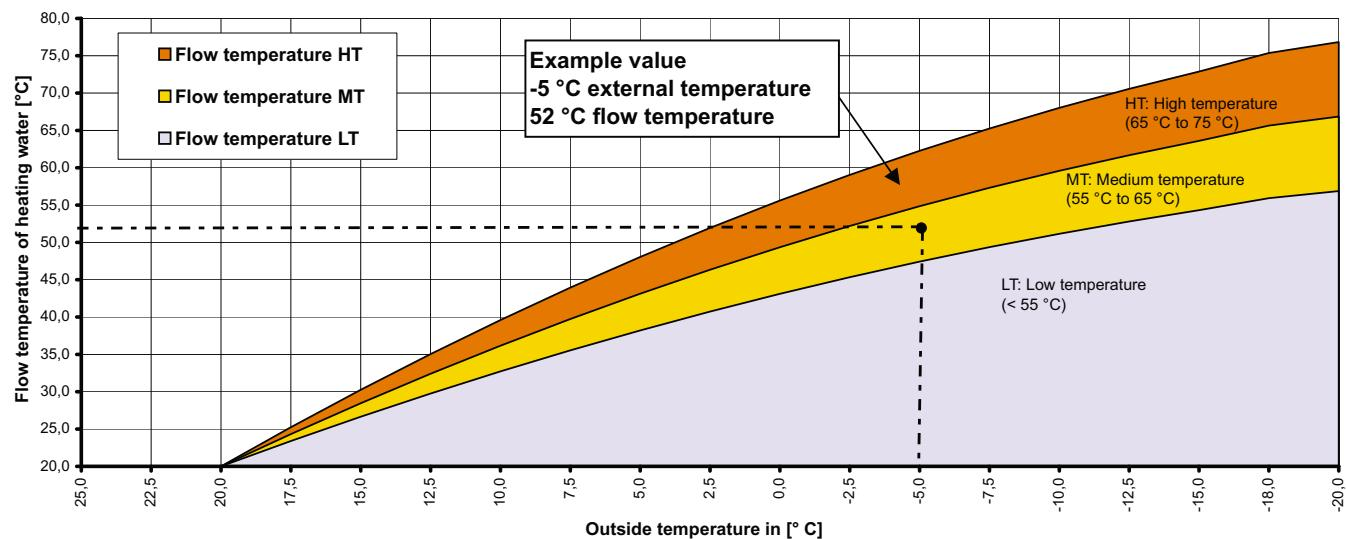

Fig. 1.1: Diagram for experimental determination of the actually required system temperatures
b) **Experimental determination of the heating period (see Fig. 1.1 on page 11)**